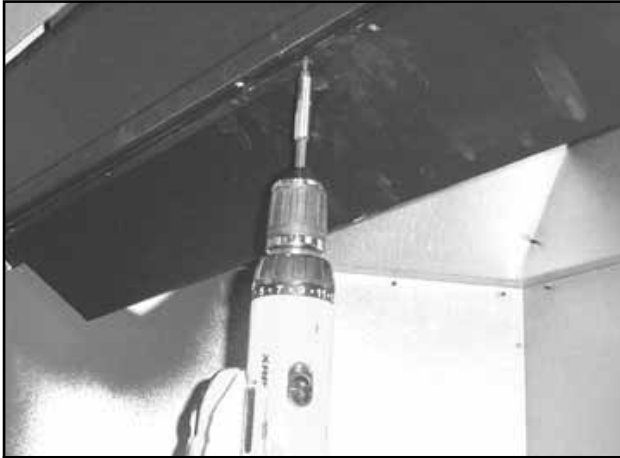

Figure 7.9 Remove Smoke Shield
- Remove smoke shield by removing five screws (starting from one side: remove two, skip one, remove one, skip one, remove two). See Figures 7.9 and 7.10.